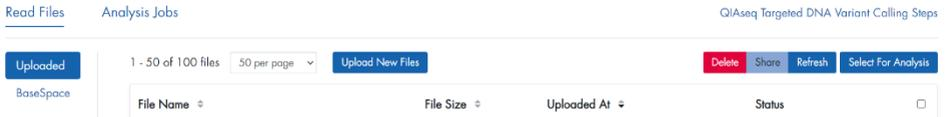

Figure 27. File Upload tab of the QIAseq Targeted DNA Pro Data Analysis Pipeline.
4. In the **Read Files** tab, select **Uploaded** > **Upload New Files** to upload files from your local drive (Figure 27).